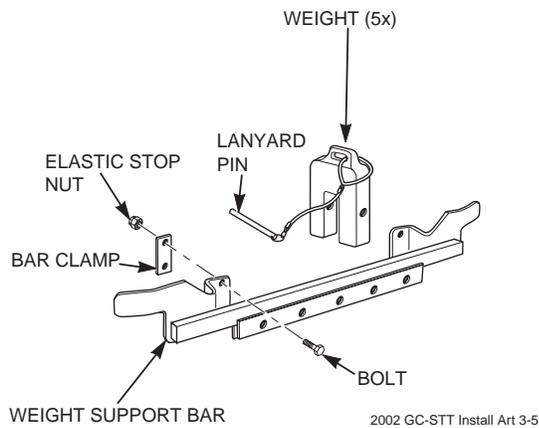

FIGURE 3-6
18. Install the weight support bar to the front of the machine by resting it directly on top of the caster support arms and sliding it tight against the frame of the machine. Secure the weight bar to the machine using (2) bar clamps, (4) 3/8-16 x 1-1/2" bolts and (4) 3/8-16 elastic stop nuts. See Figure 3-6.
19. Install the weight assemblies to the weight support bar and secure them to the bar using the 1/2" x 6-1/4" pin and lanyard. See Figure 3-6